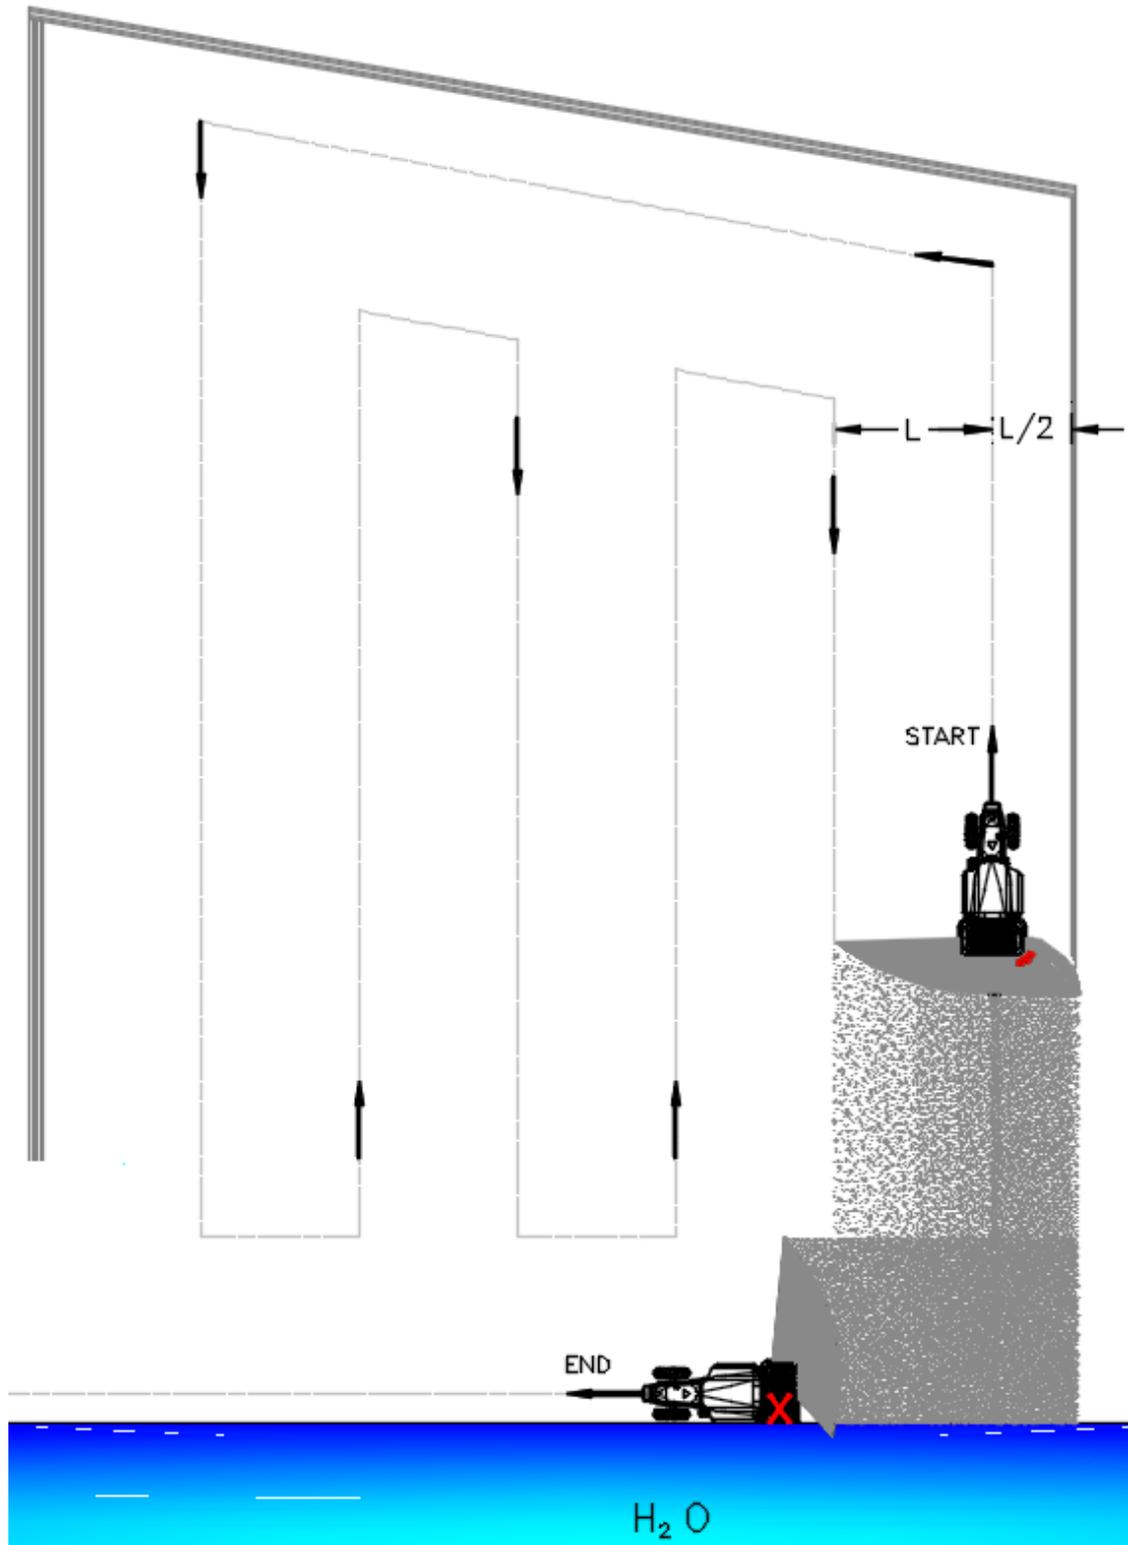

Figure 12.1 - Field spreading
- 4) The diagram on the following page (Figure 12.1) shows, by way of example, one of several possible approaches to spreading fertiliser or seeds on the field. The purpose is to guarantee a complete spreading, with no gaps or repetitions over the area to be covered, while respecting the rules and limitations of the fields.